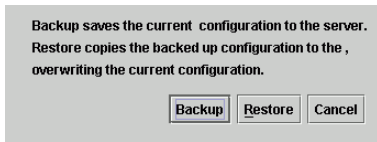

Figure 67 Backup and Restore Configuration dialog box
1. Select **Backup and Restore Configuration** from the **Maintenance** menu on the menu bar. The Backup and Restore Configuration dialog box appears, as shown in Figure 67.